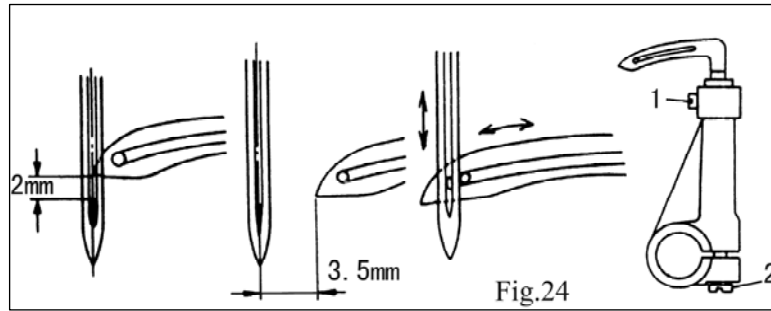

Fig.24
18. LOOPER TAKE-UP THREAD(Fig.24)
(1) The standard value of the vertical distance of the point of the looper away from the upper end of the needle eye is 2mm,then the graduation mark on the lower part of the needle bar shall be in line with the lower end of the needle bar bushing.
(2) The value of the stroke moved backward by the looper is about 3.5mm.
(3) The relation between the eye of the needle and the eye of the looper is indicated in Fig.24.